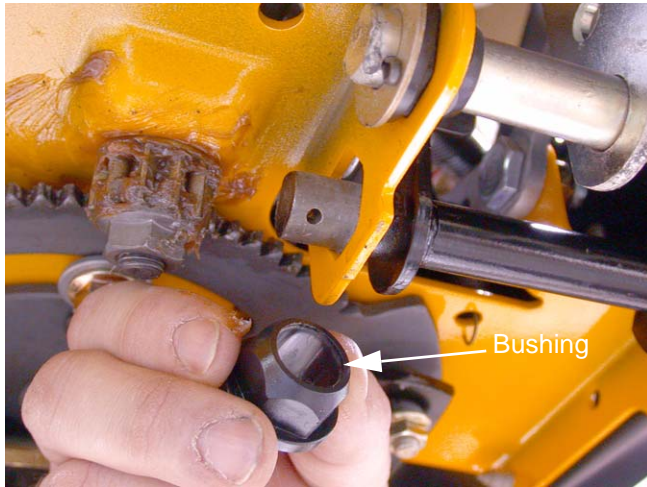

Figure 20.4
- 20.4. The inboard brake pedal shaft bushing can be removed by removing the cotter pin and washer that secure it. See Figure 20.4.